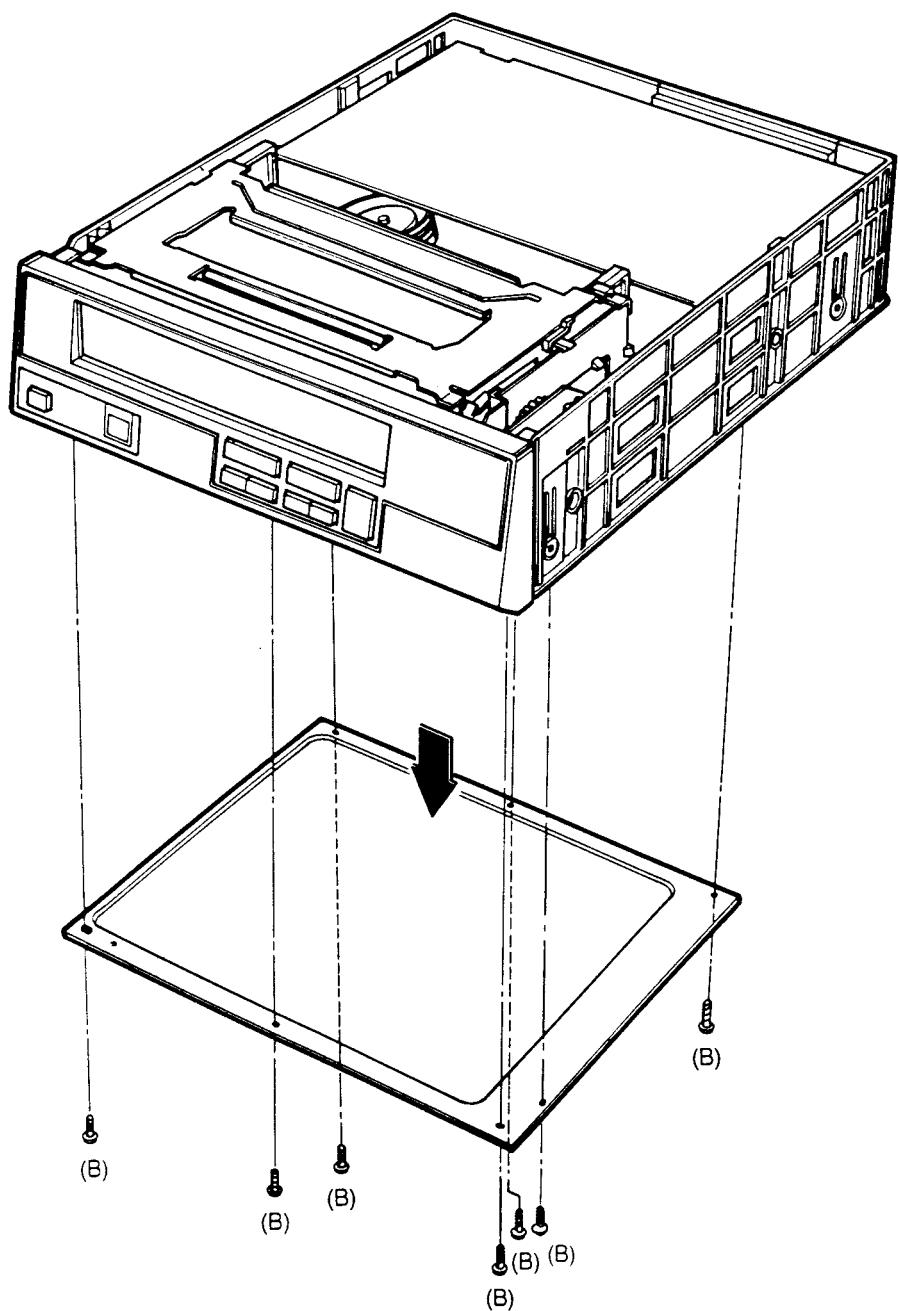

Fig. 2-1-2
(See Fig. 2-1-2)
- B. Remove the Bottom Cover. (See Fig. 2-1-2)
- C. Remove two screws (C) on the top of the Front Panel.